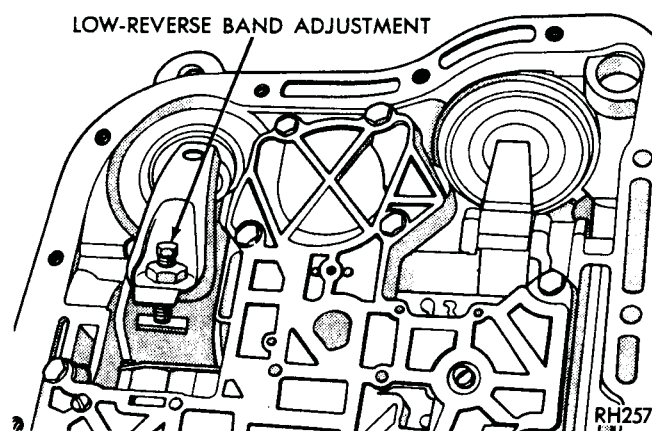

Fig. 5—Low-Reverse Band Adjustment
(1) Raise vehicle, drain transmission fluid from loosened oil pan and remove oil pan.
(2) Loosen adjusting screw lock nut and back off lock nut approximately five turns (Fig. 5). Test adjusting screw for free turning in the lever.
(3) Using wrench, Tool C-3380-A, tighten band adjusting screw to 72 in. lbs. (8 N·m).
(4) Back off adjusting screw the number of turns listed in "Specifications". Hold adjusting screw in this position and tighten lock nut to 25 ft. lbs. (34 N·m).
(5) Reinstall oil pan using a new gasket. Tighten oil pan bolts to 150 in. lbs. (17 N·m).
(6) Fill transmission with MOPAR ATF PLUS (Automatic Transmission Fluid) Type 7176.